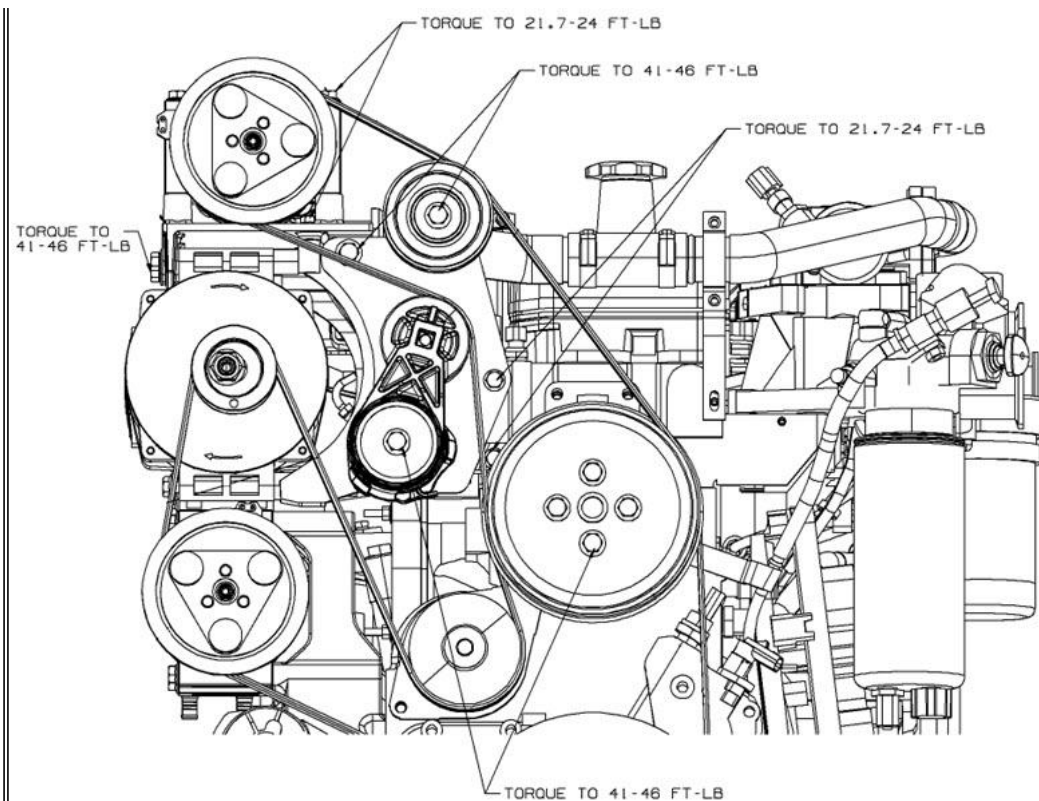

Figure 4: Torque Values
2. Install the required parts to add the brackets and pulleys, refer to figure 4 for the torque values.